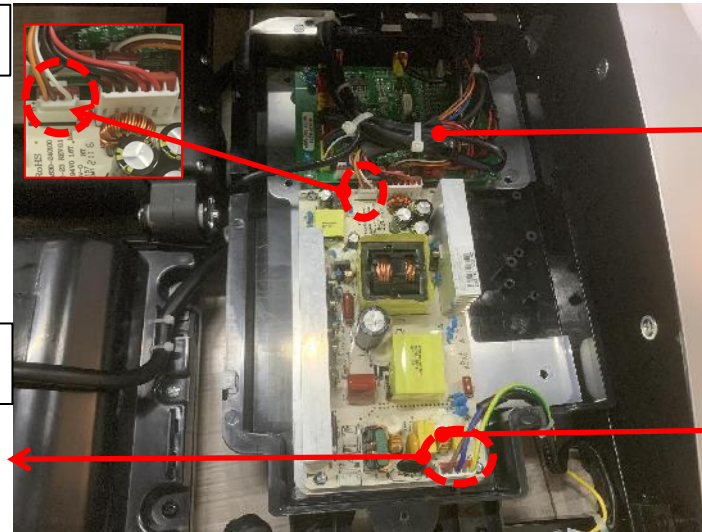

Figure 2
2. Generally, the load current is large and the external voltage is too high, which leads to the damage of fuse or switching power supply. Replace switching power supply or fuse (Figure 2)